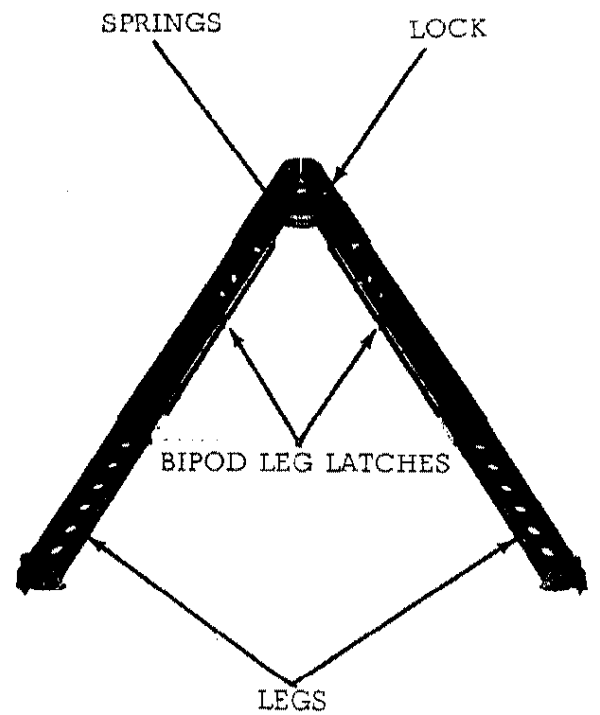

FIGURE 9. BIPOD CONTROLS
## 9. BIPOD (Figure 9)
a. Spring Lock. The Spring lock is located near the bipod hinge (figure 9). When the legs of the bipod are brought together, the lock springs up automatically and locks the legs in this position. To open the legs, the lock must be depressed and when fully open the lock automatically locks in the open position.